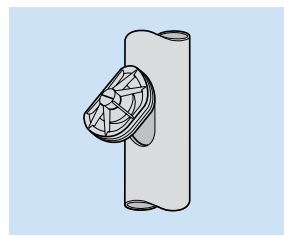

Fig. 53
- Slacken door to its fullest extent. Push the inner part of the door into the hole at a slight angle turning at the same time. When it is fully entered, turn it parallel to the axis of the pipe ensuring that the inner part locates into the hole. (Fig. 53).